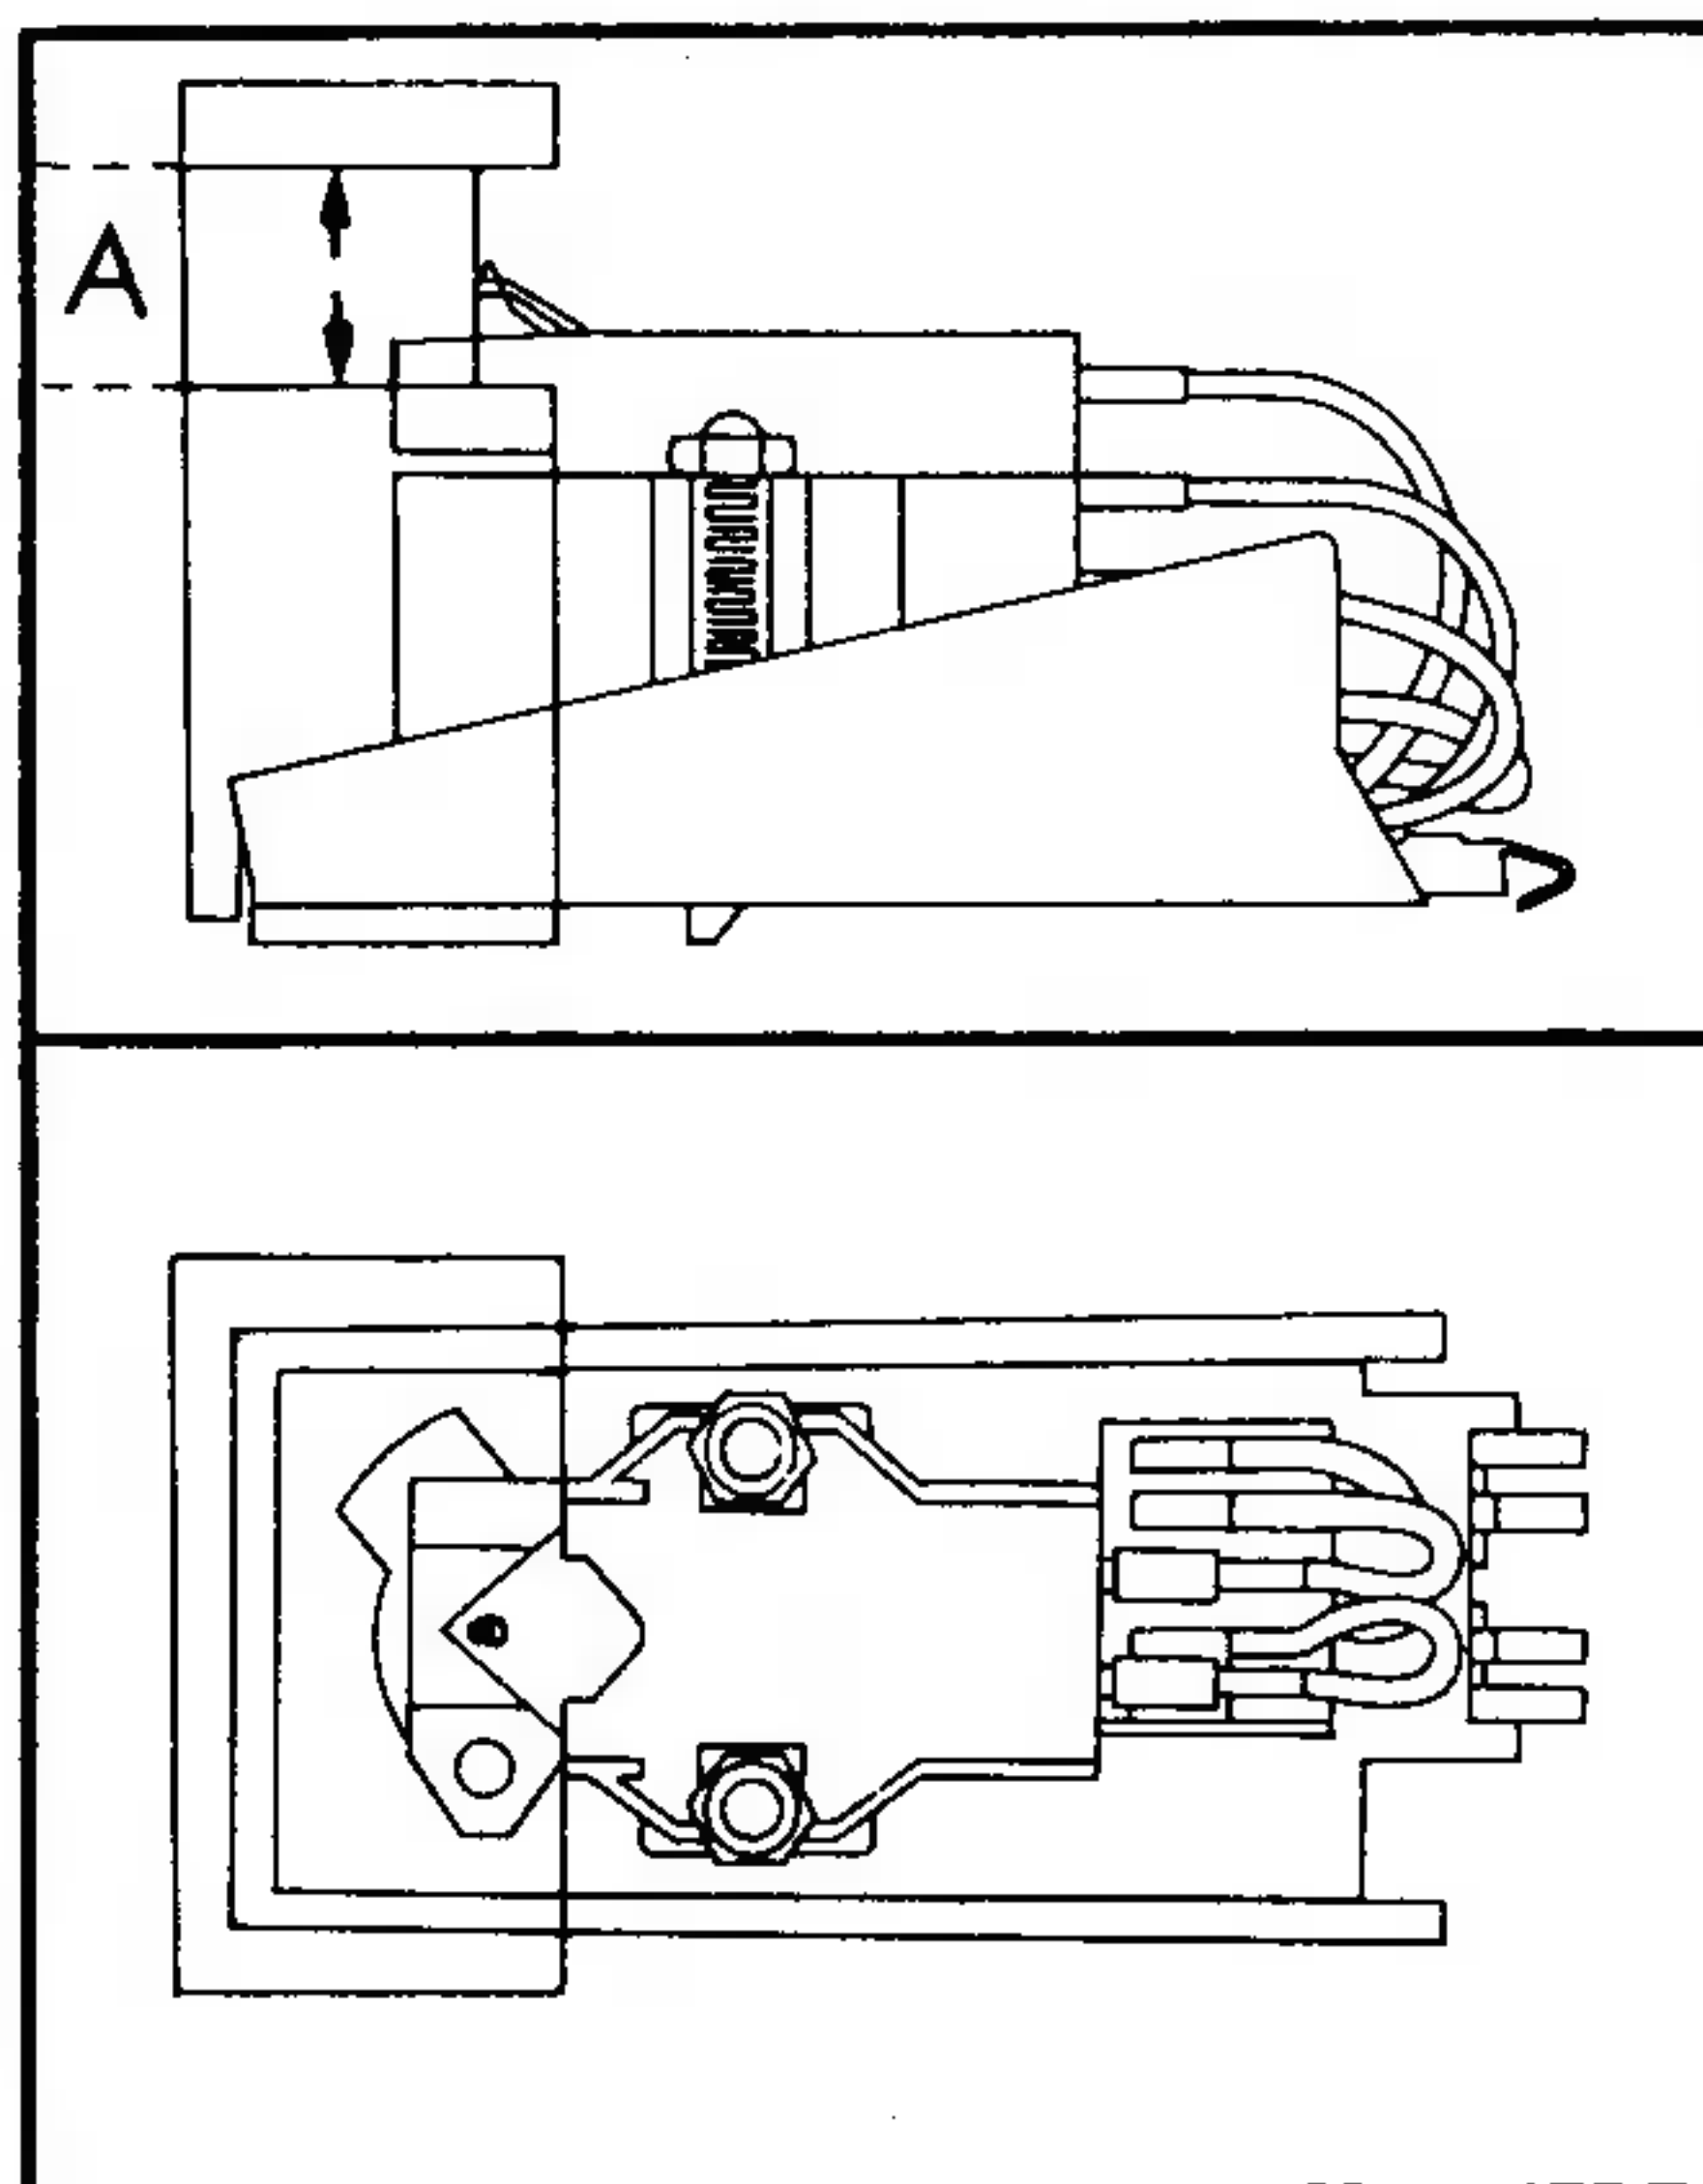

Fig. 14
3. The cartridge is correctly mounted when the notch in the mounting gauge encloses the stylus tip, and when the stylus tip, viewed from the side, is within the area (A) (Fig. 14).